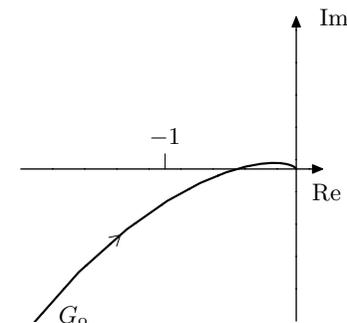
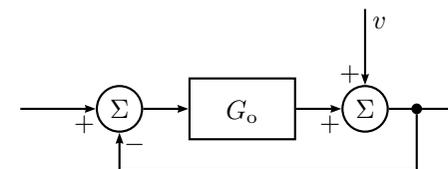

Figure 6.3a
Figure 6.3b
- 6.3 Figure 6.3a shows a Nyquist diagram for the loop gain G_o . Show in a figure for what frequencies (that is, for what part of the Nyquist curve above) additive disturbances on the output are amplified in the sense that the output amplitude of the control system in Figure 6.3b is larger than the disturbance amplitude.